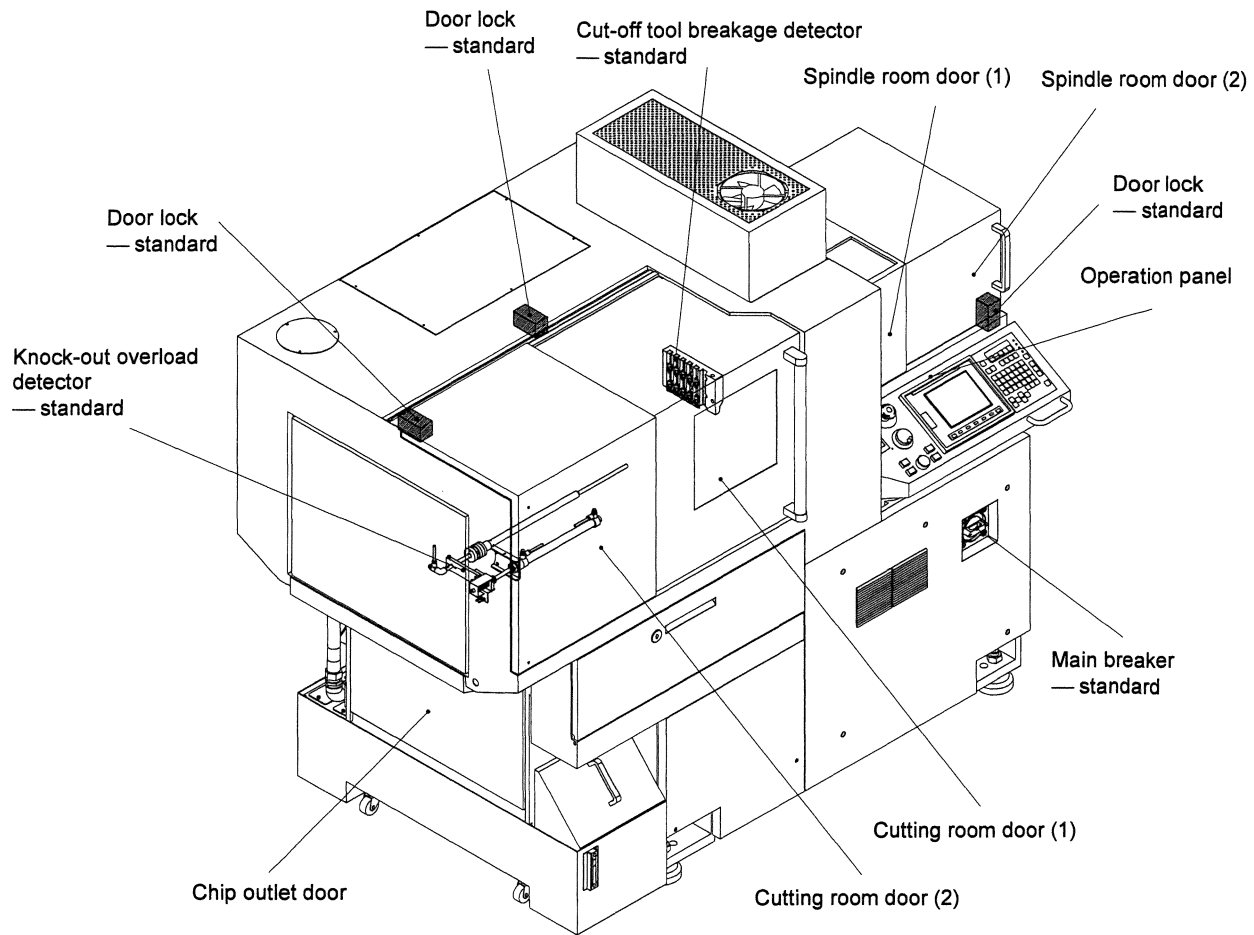
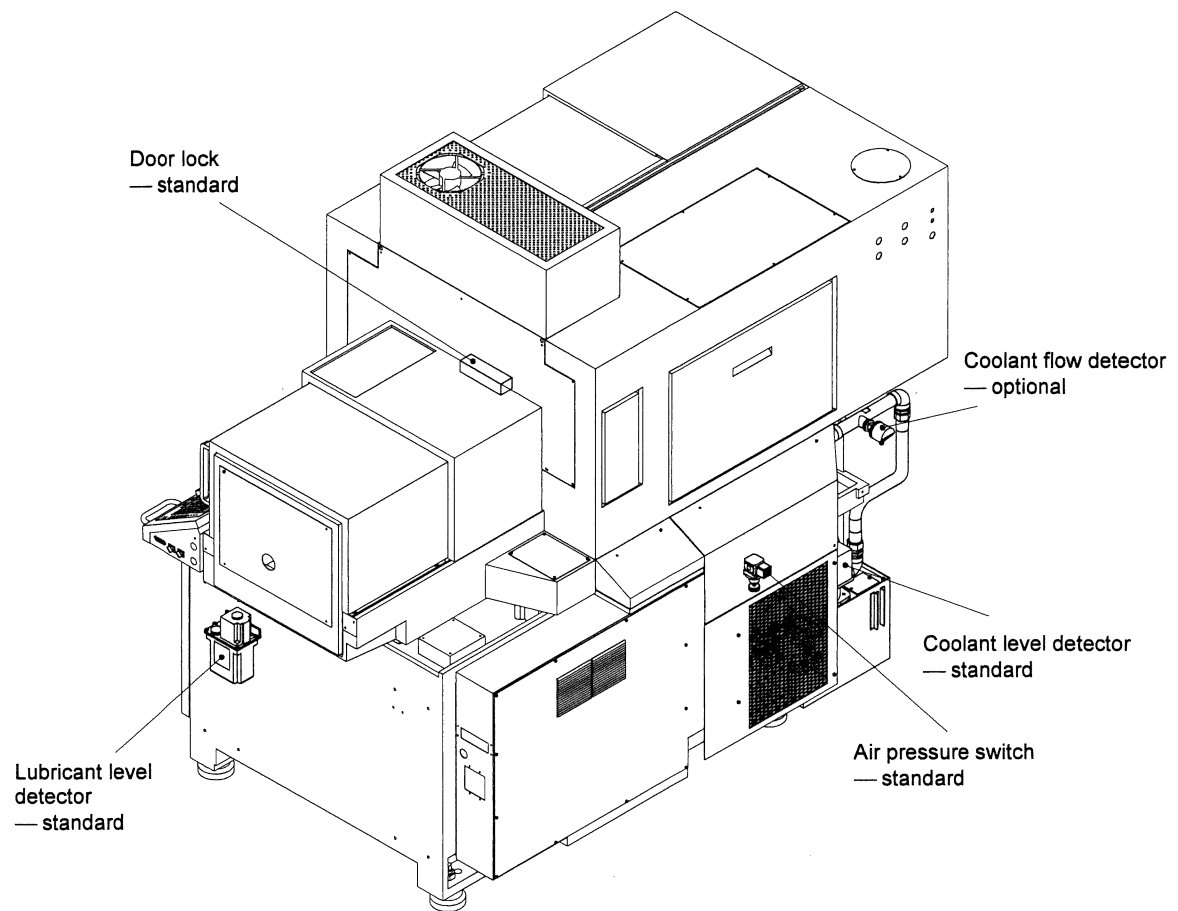

Figure 2.3-1 Locations of the safety devices (front view of the machine)
Figure 2.3-2 Locations of the safety devices (rear view of the machine)
Figure 2.3-1 and Figure 2.3-2 shows the locations on which safety devices are installed.
Door locks prevent any person from opening the cutting side door (1), (2) and main spindle side door (1), (2) during machine operation. You will only be able to open these doors when the machine is stopped. See Figure 2.3-1.